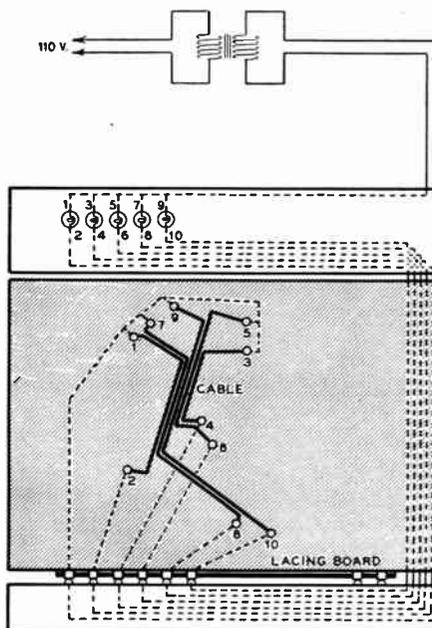

FIG. 4. CONNECTIONS OF THE TEST FIXTURE
**Wire Checker** ★ The checker, into which the cabling board fits, looks much like a picture frame. This frame, Fig. 3, has a row of buttons which make contact with the row of springs on the cabling board. The buttons are connected to a 6-volt transformer and a row of pilot lamps in such a manner that a separate lamp indicates continuity for each wire in the cable. This circuit is shown in Fig. 4. If all the lamps light, the wiring is correct, and no conductor has been left out.